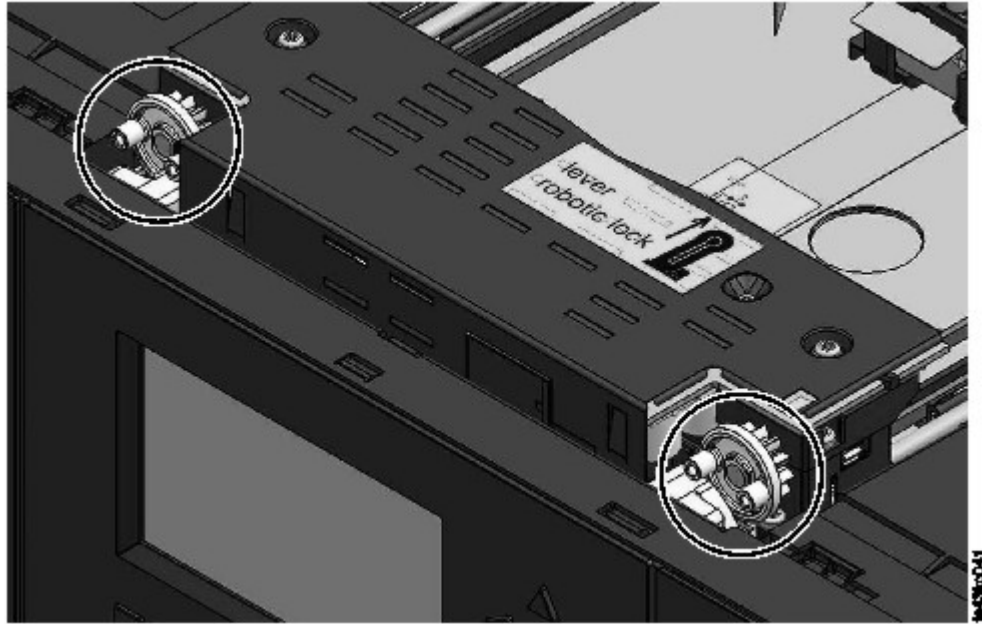

Figure 75. Pins are aligned horizontally
1. Each corner of the accessor has a gear with two protruding pins. Rotate one of the gears on the accessor so that the two pins are aligned horizontally. See Figure 75 on page 135